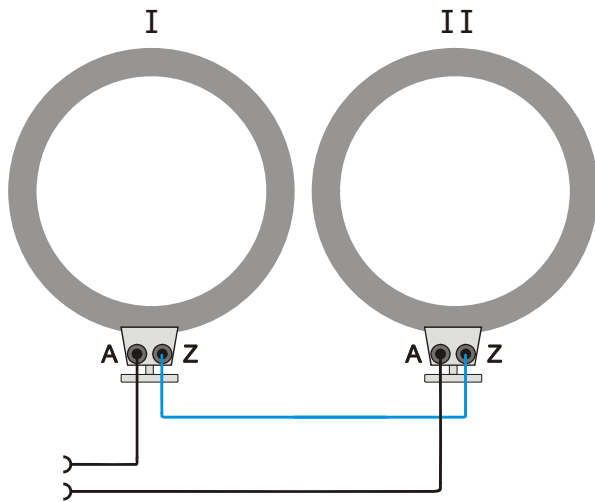

Fig. 3.1 Series connection
- When the coils are to be connected in series, connect terminal Z of coil 1 to terminal Z of coil 2 (refer to Fig. 3.1).